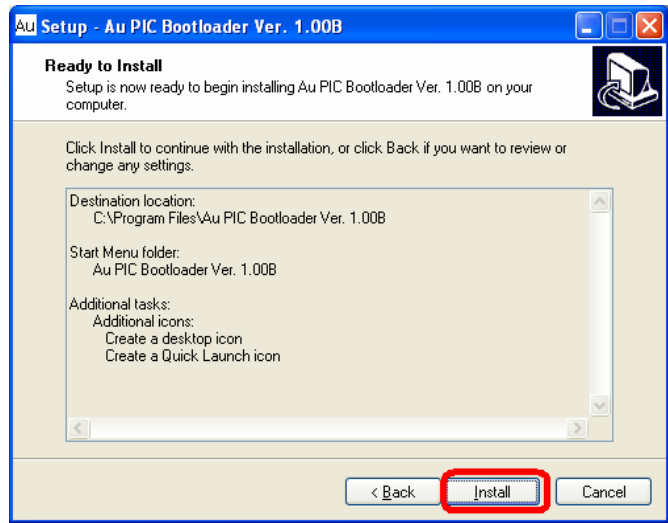

Figure C-7
- “Ready to Install” window shows up. Click “Install” (Figure C-7).